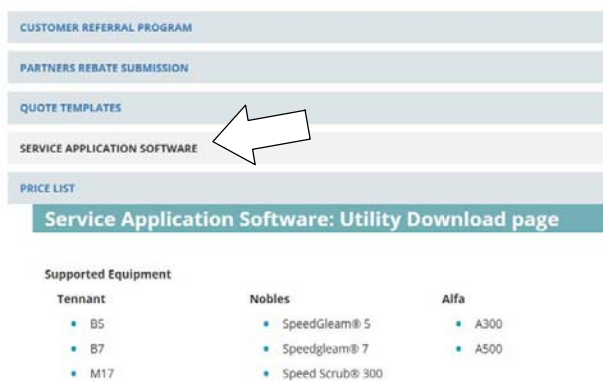

Fig. 31
3. Click on the “SERVICE APPLICATION SOFTWARE” link as shown below (Figure 31).